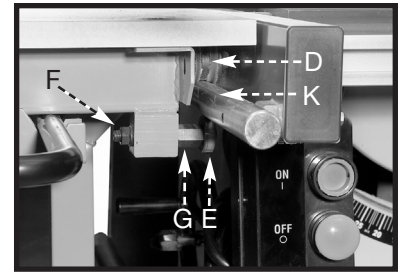
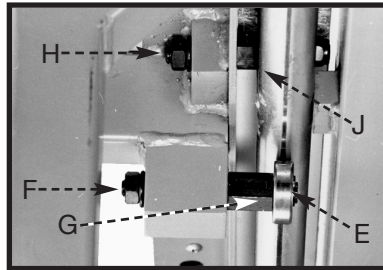

Fig. 51
Fig. 52
2. The height of the sliding table is controlled by raising or lowering the two sets of upper and lower bearings that ride on the upper guide rail (K) Fig. 51. The front upper and lower bearings are shown at (D) and (E) Fig. 51.
3. To adjust the lower bearing (E) Figs. 51 and 52 out of the way, loosen the nut (F) and turn the eccentric (G).
4. To adjust the upper bearing (D) Fig. 51, loosen the nut (H) Fig. 52, and turn the eccentric (J) until the table is slightly higher than the saw table. Tighten the nut (H). Readjust the lower bearing. Maintain a smooth sliding fit between the bearings and the upper guide rail.